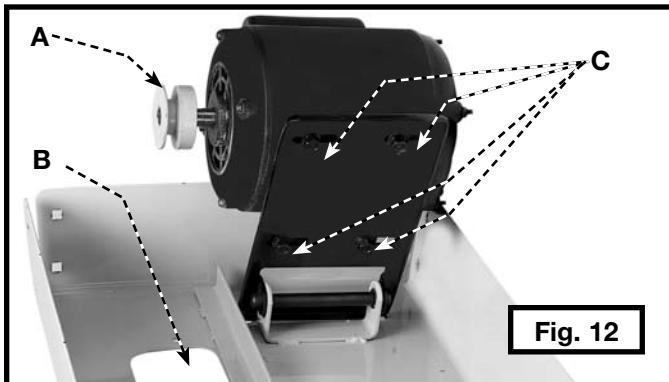

Fig. 12
5. Align the four holes on the motor bracket with the four holes (C) Fig. 12, on the motor mounting plate.
NOTE: Confirm that the motor pulley (A) Fig. 12 is mounted on the same side and the belt-opening hole (B).
4. Loosen the four bolts (C) Fig. 12 that hold the motor bracket to the motor mounting plate, and adjust the position of the motor until the motor pulley and saw pulley are aligned.